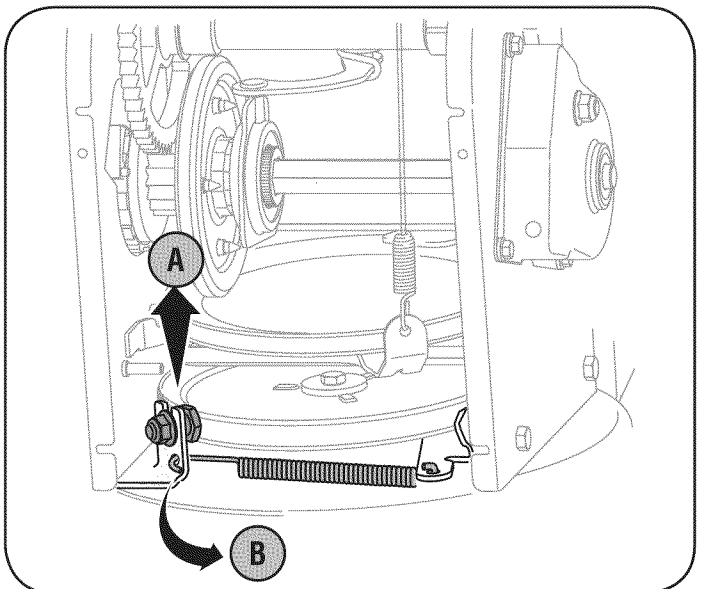

Figure 31
6. Remove the belt as follows. Refer to Figure 31.